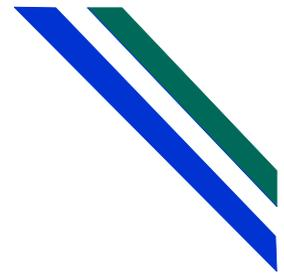

FIG. 1.
8. To prevent a build up of water at the base of the door, early cars were fitted with a separate door rubber seal inserted in a channel pop-riveted to the door aperture. "A" Fig. 1. Assist the drainage by drilling three equidistant 3/16" die. holes in the top of the body sill panel in-board of the riveted channel at the bottom of the door aperture. "B" Fig. 1. To allow drainage from the body sill, a drain hole 1/4" dia. should be drilled at the rear wheel arch end of the outer sill panel at its lowest point. "C" Fig. 1
The later type of door aperture sealing rubber, part No. 707931, which combines the aperture sealing rubber and aperture flange finisher may be fitted. "D" Fig. 1. The original channel for the older type rubber should be retained as the new rubber fitted to the aperture flange will almost conceal it.